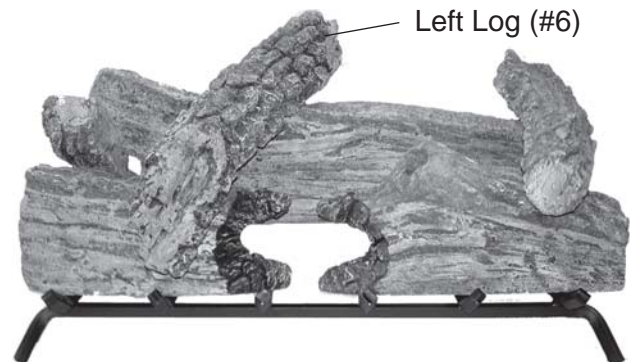

Figure 117 - Installing Left Log (#6)
7. Rest front of Left Log #6 just left of the middle of Log #1A and back end of Log #6 just left of middle of Log #3. See Figure 117.